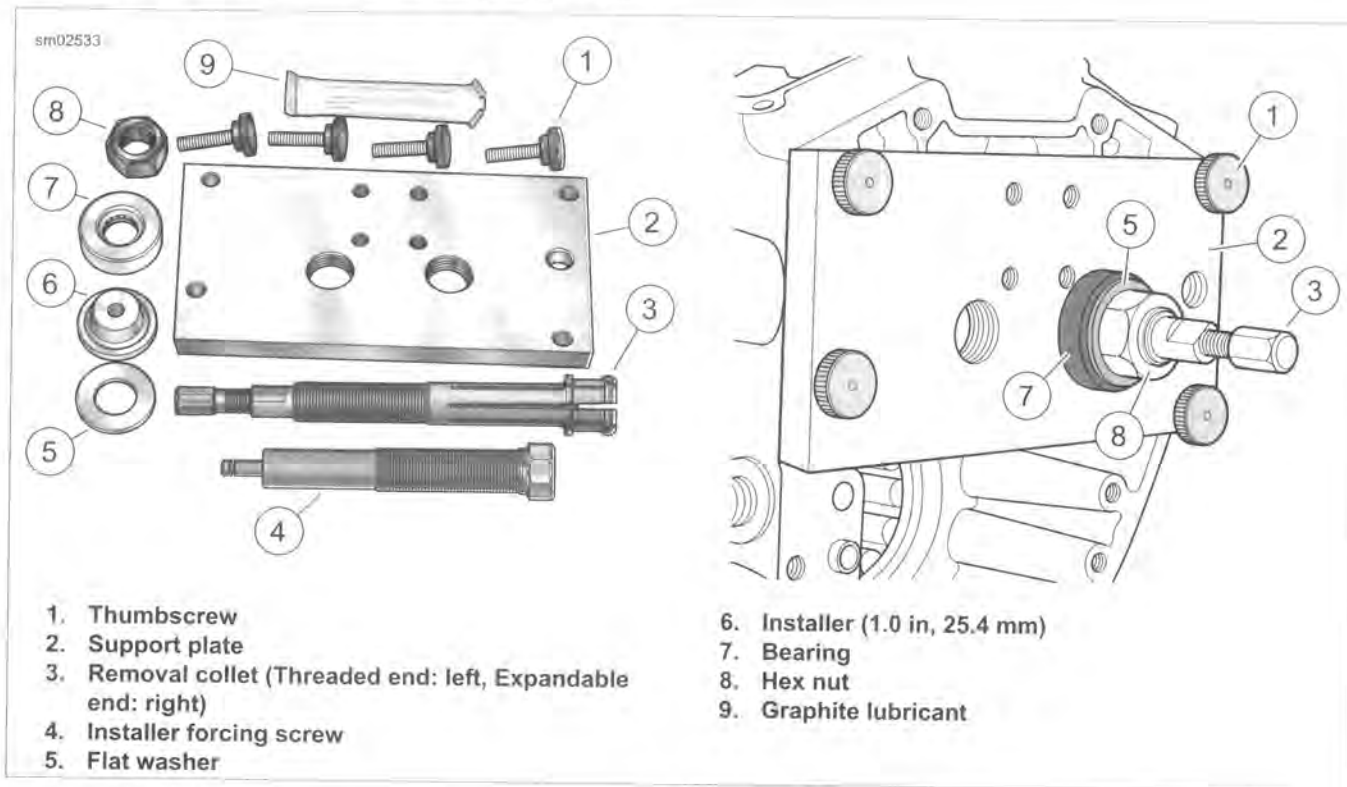
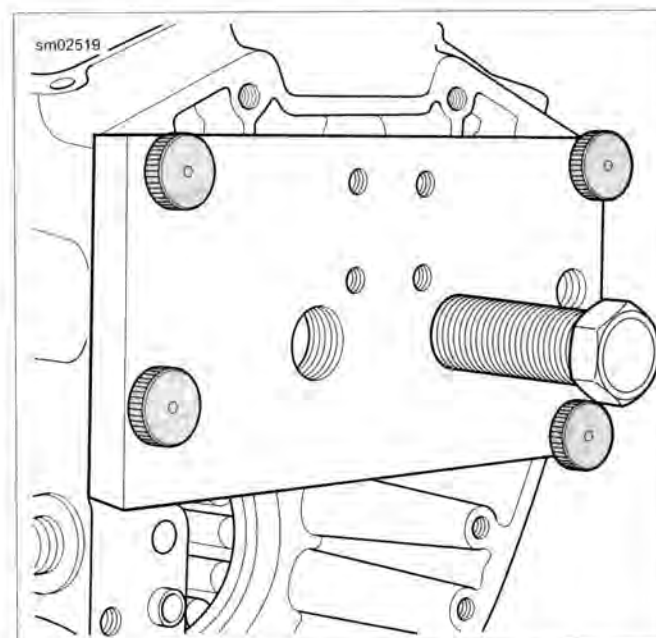

Figure 3-92. Camshaft Needle Bearing Remover/Installer
Figure 3-95. Installer Forcing Screw Installation
2. See Figure 3-92. Remove four thumbscrews (1) from threaded holes in support plate (2), if installed.
3. Sparingly apply clean engine oil (9) to threads of collet (3).
7. Center expandable end of collet in bearing bore and slide bearing (7) and flat washer (5) on threaded end. Start hex nut (8) on threaded end.
4. See Figure 3-92. Sparingly apply clean engine oil to threads of installer forcing screw (4).
5. Thread installer forcing screw into stamped side of support plate (2) until threads begin to emerge from opposite side.
6. Place installer (6) at end of installer forcing screw.
8. See Figure 3-95. Aligning two large holes in support plate with needle bearing bores, hang right side of plate on ring dowel in crankcase flange.